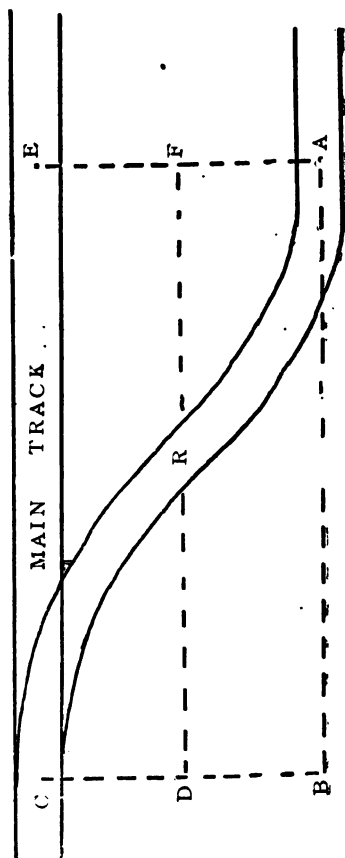

Fig. .13
18. The simplest and most economical method for laying out a side track, along which buildings are located, is to continue the *lead curve* back of the frog to a point which would be midway between the tracks if they paralleled each other. Then reverse the curve and join it with the tangent on side track at a point the same distance from the reversing point as the switch point is in the opposite direction, as shown in Fig. 13.
RULE.—When laying out the side track parallel with the main track, continue setting center stakes as if for a tangent from A to B, Fig. 13, making the latter point come at right angles with C, which is the point of switch already located in main track.